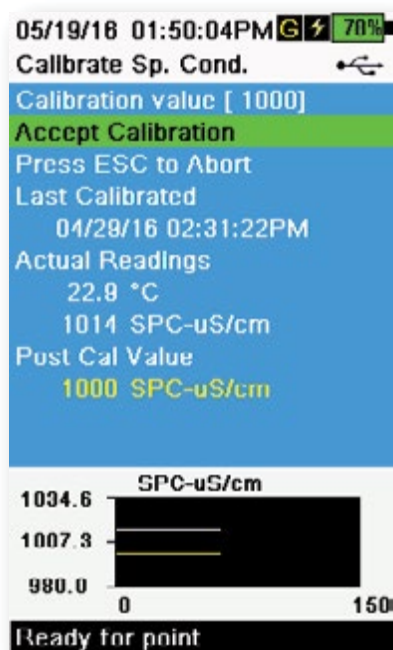

Figure 49 Calibrate specific conductance
7. Observe the actual measurement readings for stability (white line on graph shows no significant change for 40 seconds), then select **Accept Calibration** (Figure 49). "Calibration successful!" will be displayed in the message area.